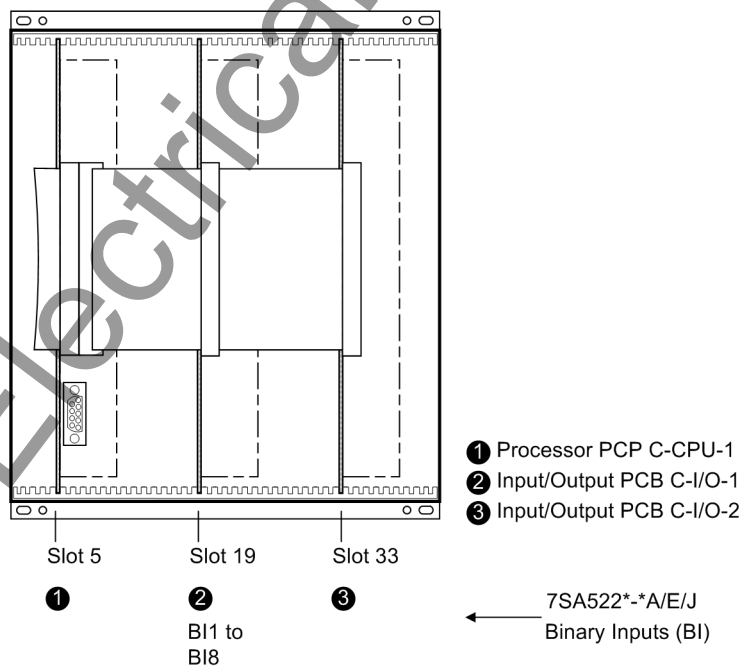
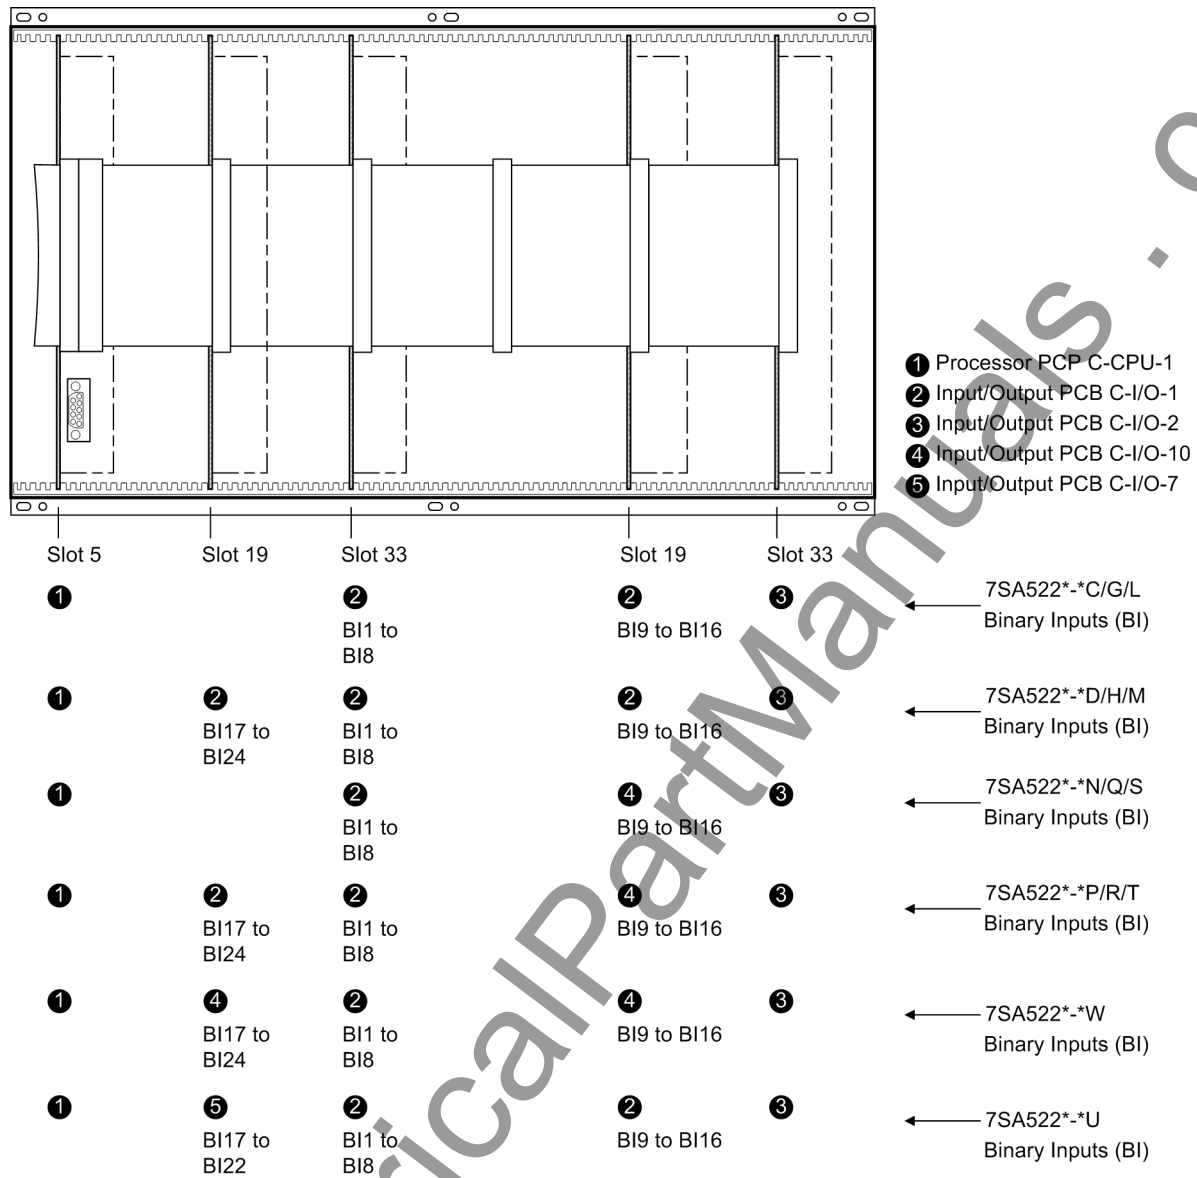

Figure 3-3 Front view with housing size $1\frac{1}{2}$ after removal of the front cover (simplified and scaled down)
Figure 3-4 Front view with housing size $1/1$ after removal of the front cover (simplified and scaled down)
The order of the boards for housing size $1\frac{1}{2}$ is shown in Figure 3-3 and that of housing size $1\frac{1}{4}$ is shown in Figure 3-4 hervor.
- Disconnect the plug connector of the ribbon cable between the front cover and the processor board C-CPU-1 (No. 1 in Figure 3-3) at the front cover side. Press the top latch of the plug connector up and the bottom latch down so that the plug connector of the ribbon cable is pressed out.
- Disconnect the ribbon cables between the processor board C-CPU-1 (No. 1 in Figure 3-4) and the input/output board I/O (according to order variant No. 2 to No. 5 in Figure 3-4).
- On the input/output board C-I/O-1 (No. 2 in Figure 3-3, slot 19) for housing size $1\frac{1}{2}$,
- On the input/output board C-I/O-1 (No. 2 in Figure 3-4, slot 33 left) for housing size $1\frac{1}{1}$,
- In versions 7SA522*-***D/H/M** (housing size $1\frac{1}{1}$ with 32 binary outputs) this is valid for the binary outputs BO16 and BO24 (Figure 3-4, slot 19 left and right);
- In versions 7SA522*-***C/G/L** (housing size $1\frac{1}{1}$ with 24 binary outputs) this is valid for the binary output BO16 (Figure 3-4, slot 19 right);
- In versions 7SA522*-***P/R/T** (housing size $1\frac{1}{1}$ with 32 binary outputs and command acceleration) this is valid for the binary output BO24 (Figure 3-4, slot 19 left);
- In version 7SA522*-***U** (housing size $1\frac{1}{1}$ with 44 binary outputs and command acceleration) this is valid for the binary output BO16 (Figure 3-4, slot 19 right);